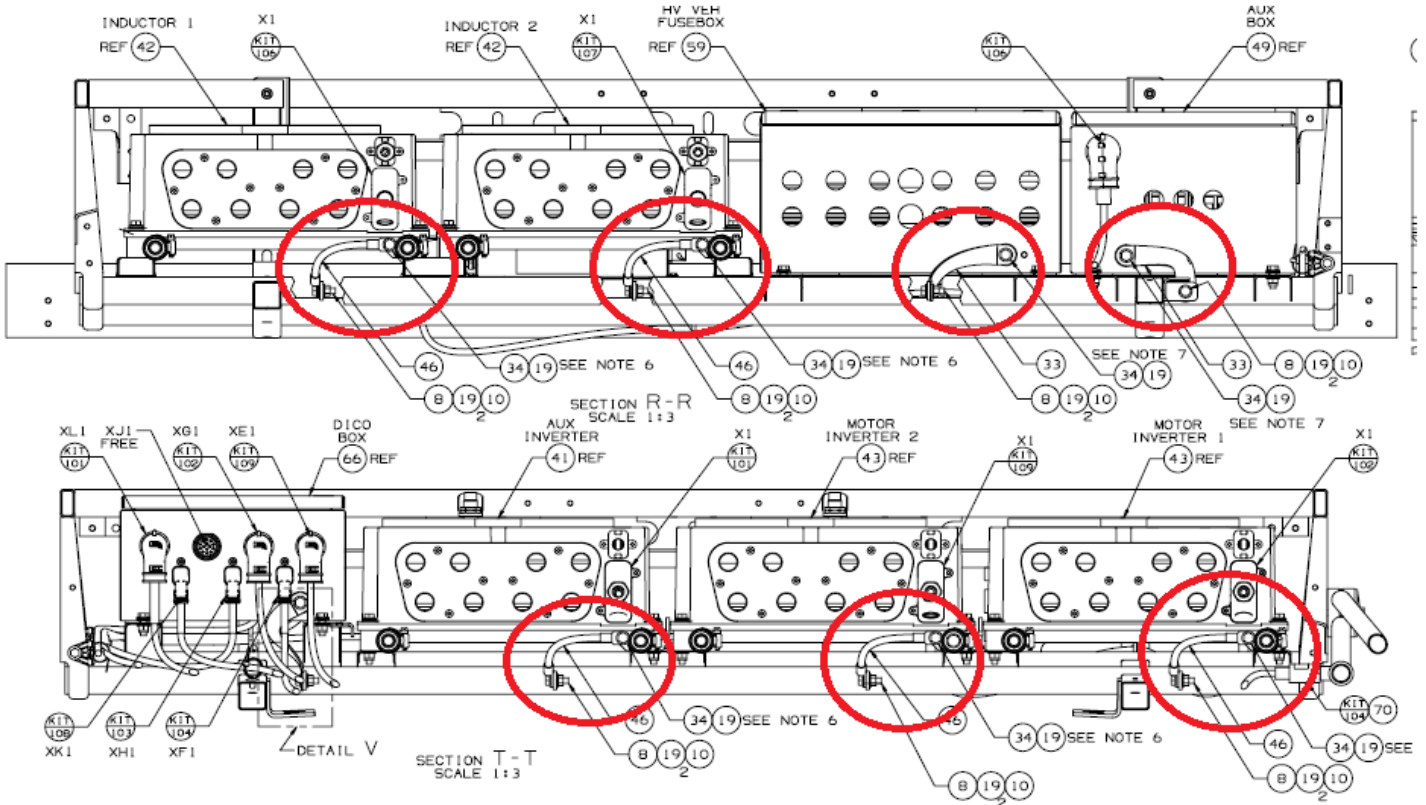

Figure 11: Inverter Rack Ground Location layout
43. Ensure M8 hardware at Ground Straps at inverters are torqued to 11 FT-LBS dry +/- 10% shown in figure 11.
44. Ensure M8 hardware at Ground Straps at Chassis connections has contact to bare metal and are torqued to are torqued to 13 FT-LBS dry +/- 10% shown in Figure 11.